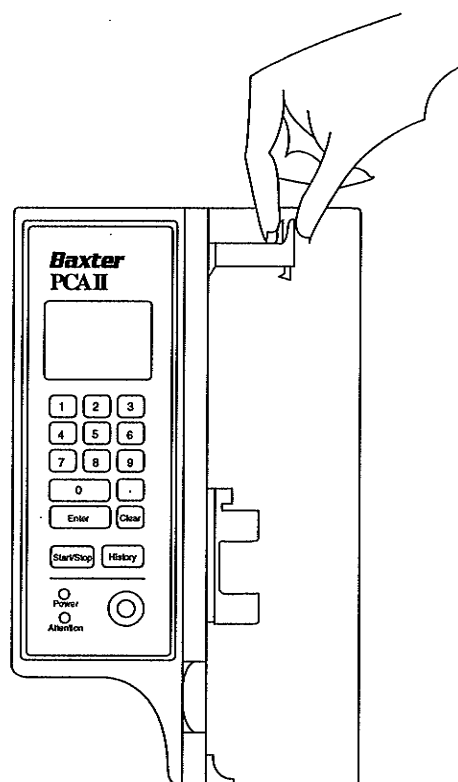

Figure 2-3 • Sliding the pusher block to the top of the pump
- Squeeze the release lever, as shown in Figure 2-3, and slide the pusher block as far as possible to the top of the pump.